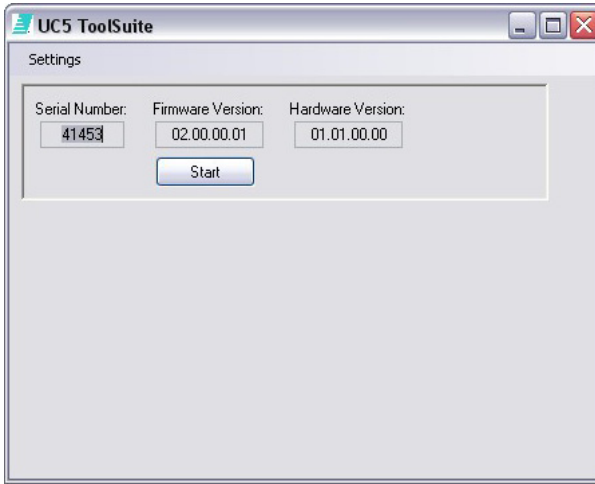

Figure 8: UC5 Toolsuite Screen with a Height Sensor Connected
3. Click the “Start” button to view and change the sensors settings. (Figure 8)